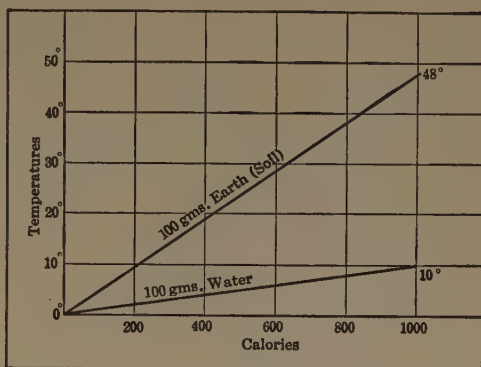

FIG. 66. — The same amount of heat that warms 100 grams of water 10° will warm 100 grams of earth nearly 50°.
**Specific heat in everyday life.** If equal quantities of heat are given to equal weights of water and of earth, the earth, because of its lower specific heat, will be warmed to a higher temperature, Fig. 66. For this reason, the land gets warmer than the water of the ocean or lake when under the direct rays of the sun. This is important in modifying climate, as it causes winds to blow from the cooler water in hot weather,